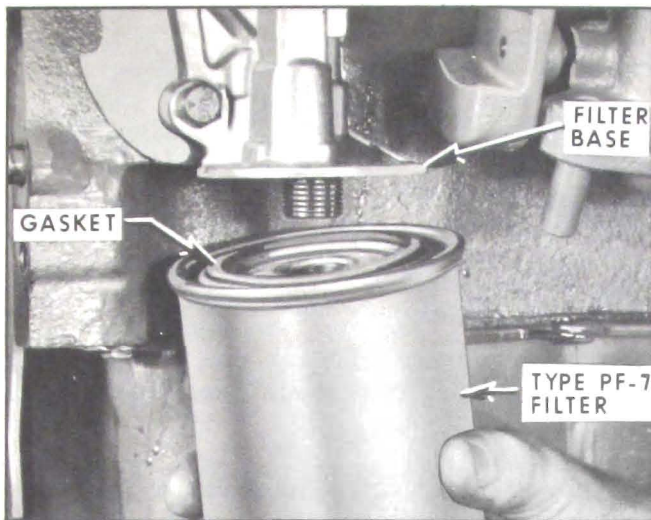

Figure 1-3—Oil Filter Installation
Do not accelerate engine beyond normal idle until oil pressure is indicated. Check filter area for leaks after engine has run for five (5) minutes. See Figure 1-3.